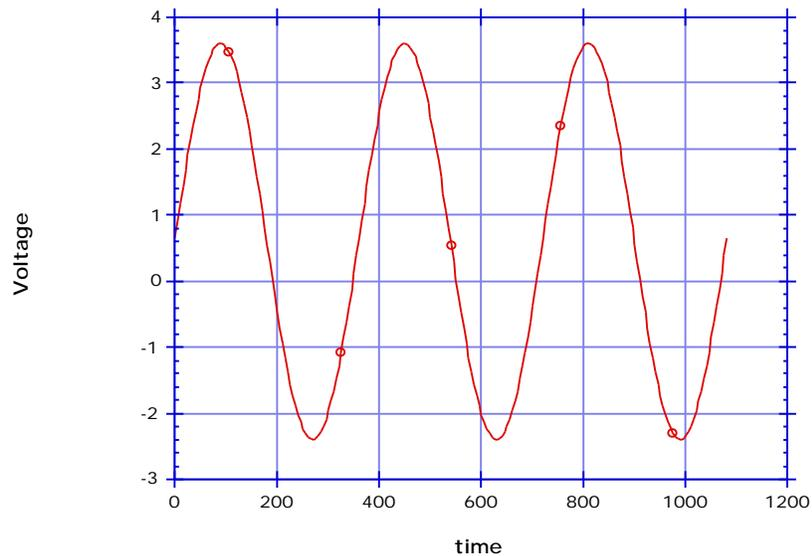

Figure 1: A 3 V sine wave with 0.6 V offset
1. *Scope Coupling*: The scope *y* inputs can be ac or dc coupled. The ac coupling blocks the constant part of the signal. Add some dc offset to the function generator output and switch between ac and dc coupling. Observe the effects on the scope. Figure 1